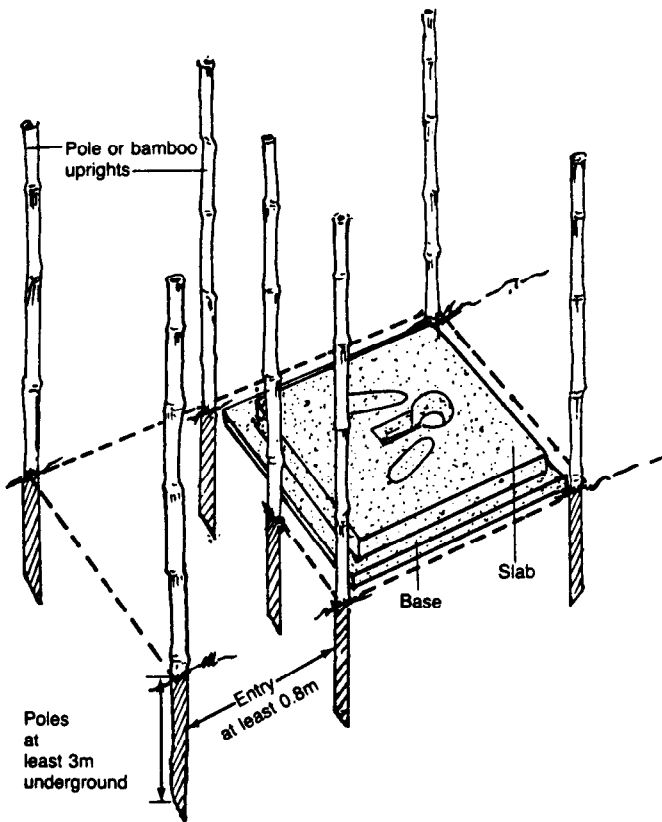

Figure 9a. Cornerposts for Screen Shelter
3. Set corner posts or uprights firmly in the ground in a vertical position around the privy slab to a depth of 0.3-0.6m as shown in Figure 9a. Thoroughly tamp the ground after the posts are in place.